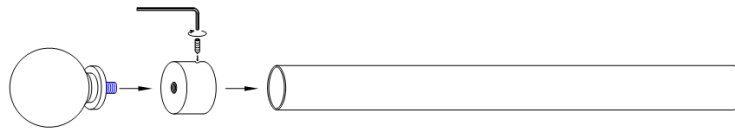

Fig 1
1. Attach the finial attachment onto the end of the rod, and tighten the set-screw with the enclosed Allen Wrench (See Fig 1).
2. Screw the finials into the finial attachment (See Fig 1).